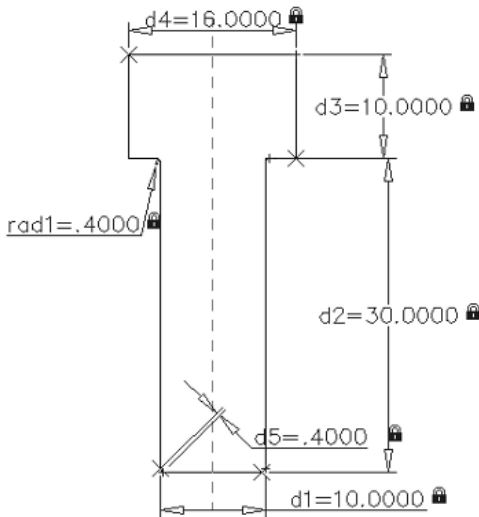

Figure 16-67 Sketch with all dimensional constraints
11. Apply the dimensional constraints by using the tools in the **Dimensional** panel of the **Block Editor**. Figure 16-67 shows the sketch with all dimensional constraints applied. Also, make sure that you snap the end points of the vertical line while applying constraints to the base diameter and to the length of the bolt. While applying the dimensional constraints in **Block Editor**, you are prompted to specify the number of grips as soon as you specify the value. For this tutorial, enter **0** as the number of grip.